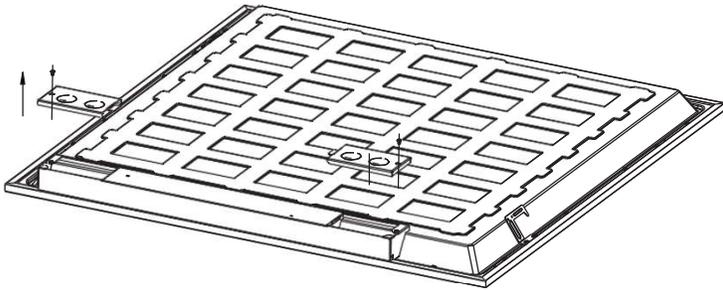

Figure 1
3. Unscrew driver cover and remove knockouts to wire power supply. (Fig1)
1. Remove accessories from the package carefully. Put together the four-piece drywall flange kit by using the supplied Wafer Head Self Tapping Screws . (Fig 1)